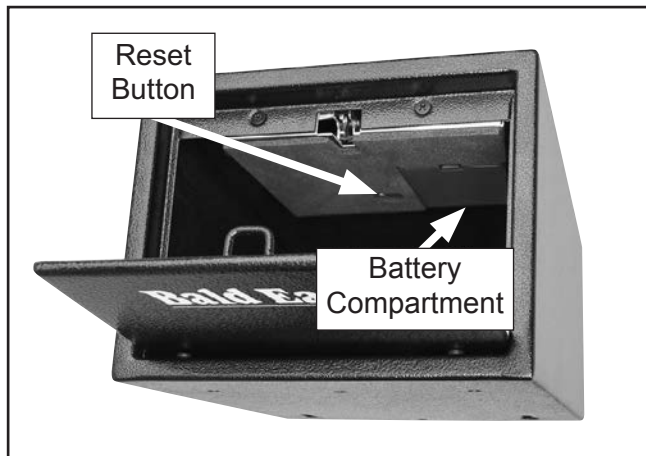

Figure 3. Battery compartment located in locking assembly.
1. Place safe on its side, and locate battery compartment on locking assembly shown in **Figure 3**.